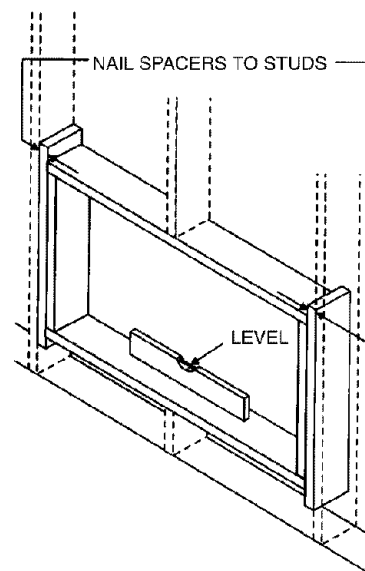

Fig. 24 – Frame Installation
10. Install wooden frame into hole in wall. Make sure frame is properly secured. Fill in the space between the frame and the studs with wood shims (spacers). Nails spacers to studs. If required, provide studs around entire frame to reinforce stability of wall (see Fig. 24).